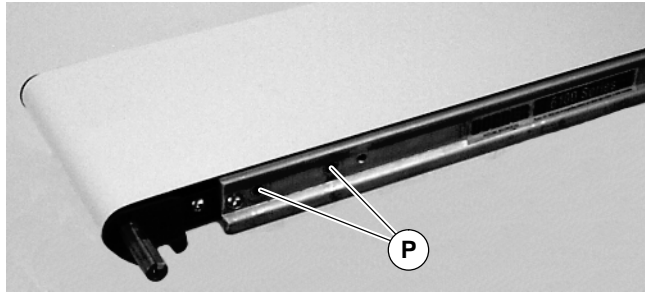

Figure 3
2. Locate drive output shaft and remove two (2) screws (P of Figure 3).